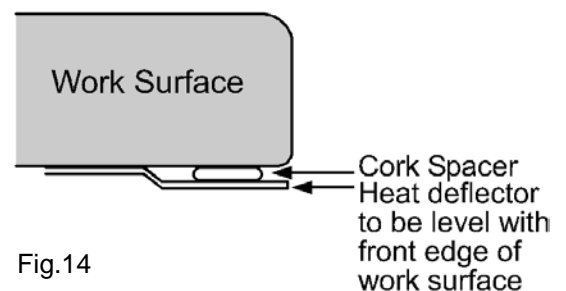

Fig.14
- Place the heat deflector flush with the edge of the worksurface, (see Fig.14) with the cork spacers up over and screw into position using the screws supplied with the appliance. Failure to do this may cause damage to the underside of the work surface.